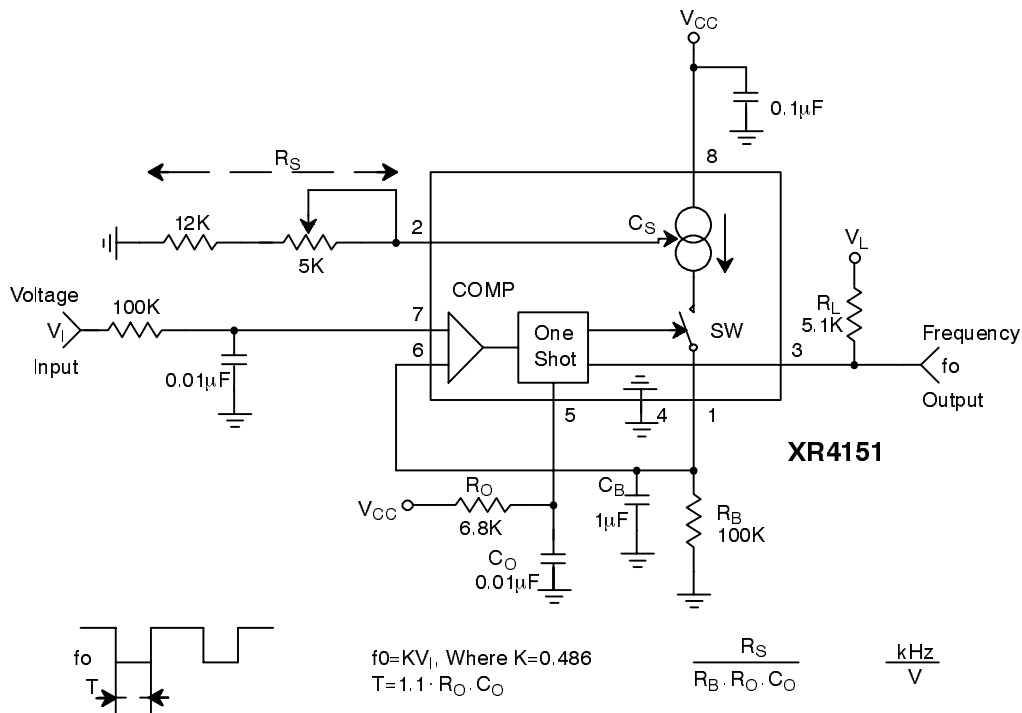
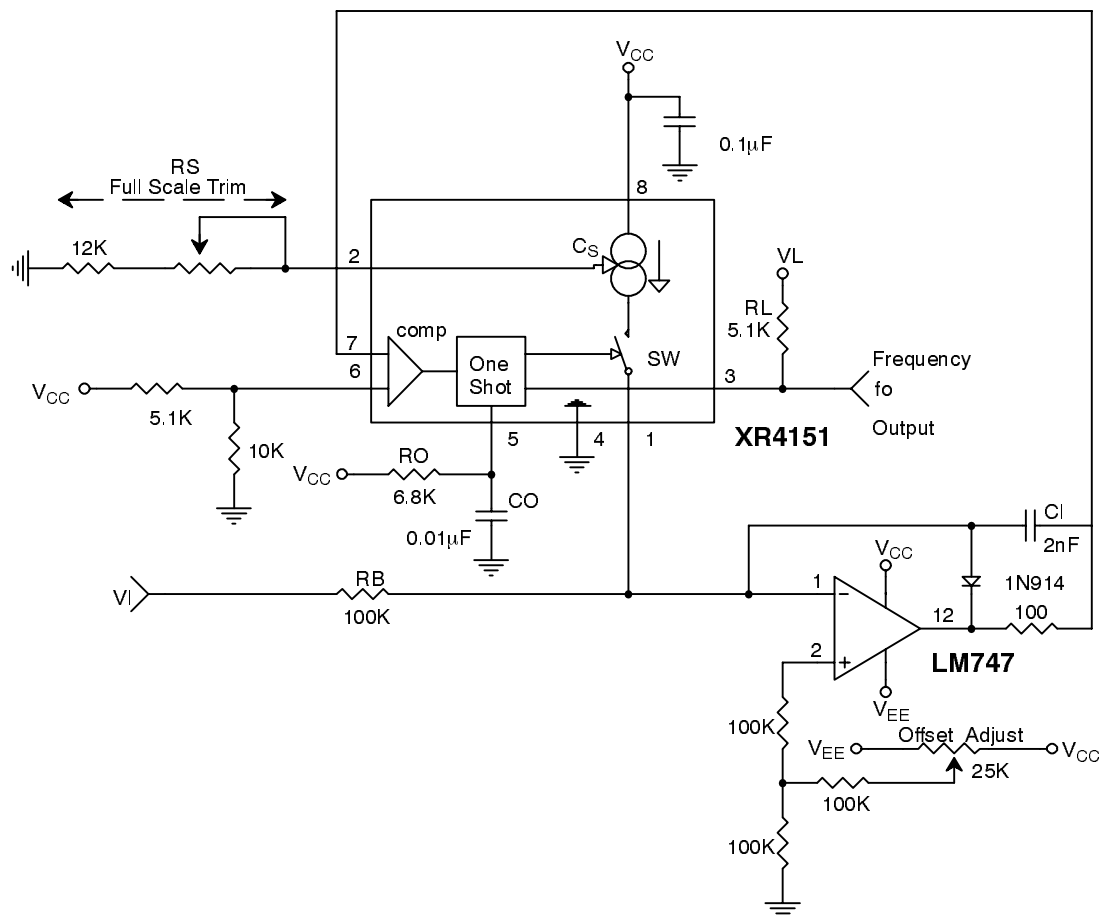

Figure 2. Voltage-to-Frequency Converter
Figure 3. Precision Voltage to Frequency Converter
In this application, the XR4151 functions as a stand alone voltage-to-frequency converter operating on a single positive power supply. Refer to the functional block diagram and *Figure 2*, the circuit connection for single supply voltage-to-frequency conversion. The XR-4151 contains a voltage comparator, a one-shot, and
Figure 2 shows the simplest type of VFC that can be made with the XR4151. The input voltage range is from 0 to +10V, and the output frequency is from 0 to 10kHz. The full scale frequency can be tuned by adjusting R_S , the output current set resistor. This circuit has the advantage of being simple and low in cost, but it suffers from inaccuracy due to a number of error sources. Linearity error is typically 1%. A frequency offset will also be
introduced by the input comparator offset voltage. Also, response time for this circuit is limited by the passive integration network $R_B C_B$. For the component values shown in Figure 2, response time for a step change input from 0 to +10V will be 135msec. For applications which require fast response time and high accuracy, use the circuit of Figure 3.
In this application (*Figure 3*) the XR4151 is used with an operational amplifier integrator to provide typical linearity of 0.05% over the range of 0 to -10V. Offset is adjustable to zero. Unlike many VFC designs which lose linearity below 10mV, this circuit retains linearity over the full range of input voltage, all the way to 0V.
The operational amplifier integrator improves linearity of this circuit over that of *Figure 2* by holding the output of the source, Pin 1, at a constant 0V. Therefore, the linearity
1. Set $R_S = 14k\Omega$ or use a 12K resistor and 5K pot as shown in the figures. (The only exception to this is *Figure 3*).
3. a) For the circuit of *Figure 2* make $C_B = 10^{-2} [1/f_0]$ Farads.
4. a) For the circuit of *Figure 3* keep the values of R_B as shown and use an input attenuator to give the desired full scale input voltage.
- b) For the precision mode circuit of *Figure 3*, set $R_B = V_{IO}/100\mu A$ where V_{IO} is the full scale input voltage.